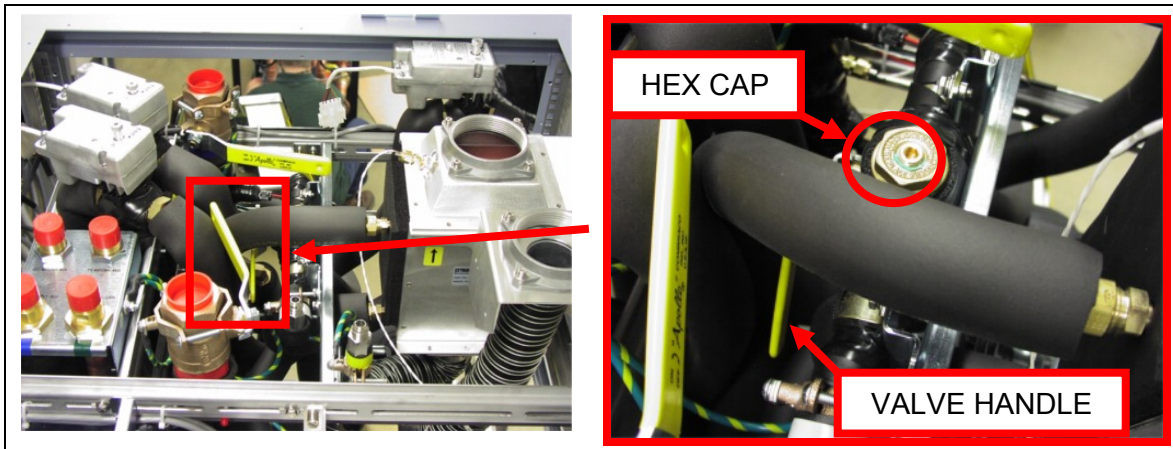

Figure 4: Filter Valve Location
- Using the drain hose supplied with the water removal kit, 5269683, connect to the brass QD fitting on either of the two heat exchangers. Crack open Cryo filter housing shown in Figure 4 (Reference GE coolant draining procedure for further details). This is done by opening the valve handle halfway (the handle should be at a 45° angle) and partially opening the large hex cap on the top of the valve. The facility fluid will be sufficiently drained when fluid stops running from drain hose. After one heat exchanger is drained, move drain hose to the other heat exchanger and allow draining.